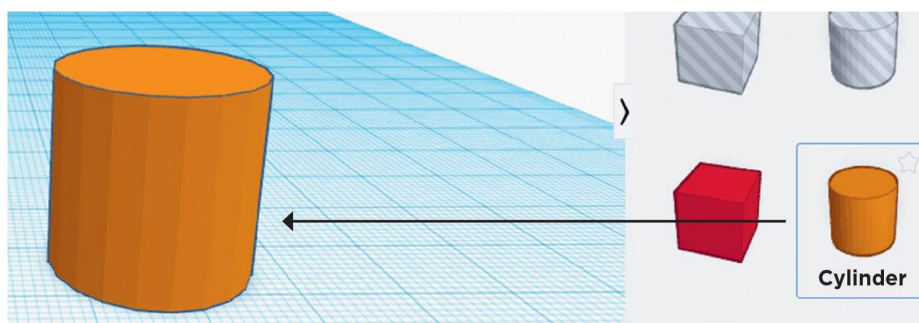

FIG. 2: Selecting a **Cylinder** from the menu.
2. Create a cylinder using the CAD software Tinkercad by dragging and dropping a cylinder on the workplane from the **Basic Shapes** menu (fig 2).